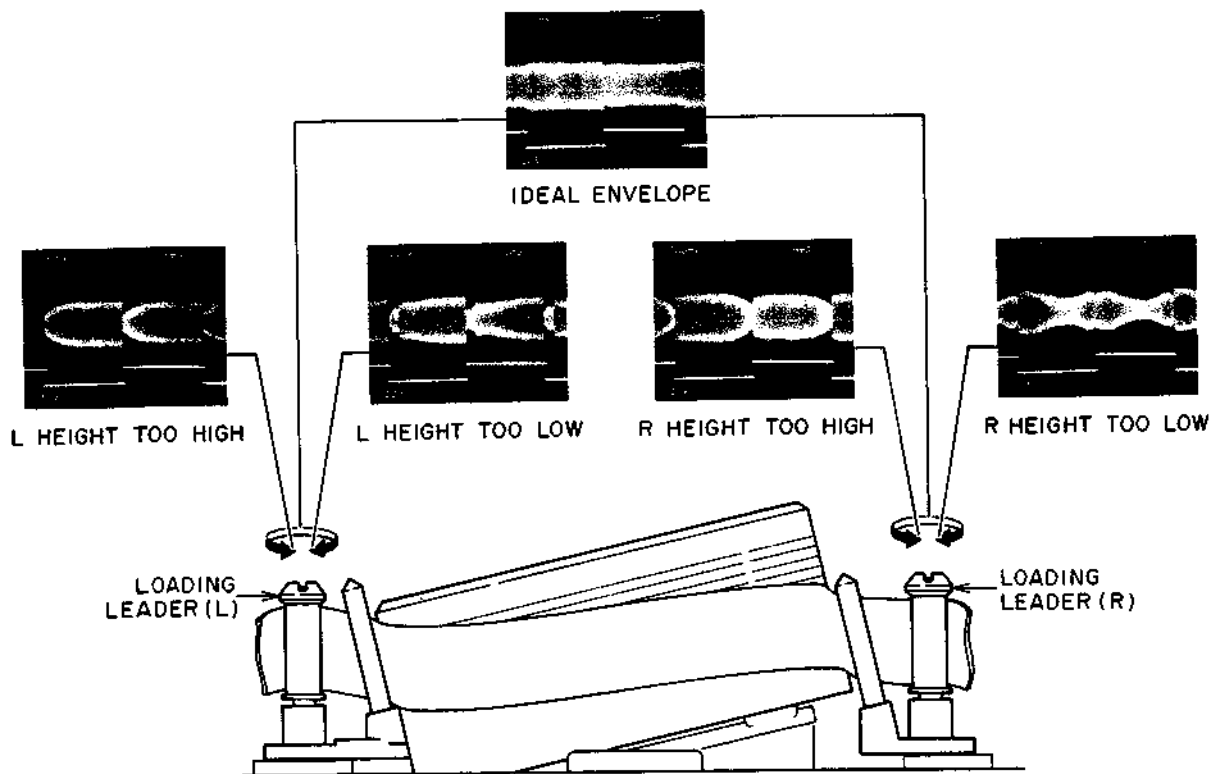

Fig. 6-4
- 3) Connect an oscilloscope to TP3 on the Pre-Amp. P.C Board (RF ENVELOPE), turn the **LOADING LEADER** height adjustment screw head to obtain the flat envelope as Fig. 6-4 ideal envelope.
- 2) Slightly turn the LOADING LEADER HEIGHT ADJUSTMENT SCREW HEAD (L) (R) to obtain the IDEAL ENVELOPE as shown in Fig. 6-4.